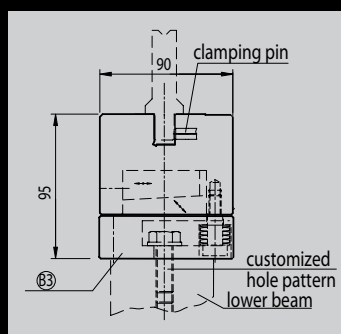

Fig. 5.2
- Adaption (B2) for mounting to the slot in the lower beam. (Fig. 5.2).